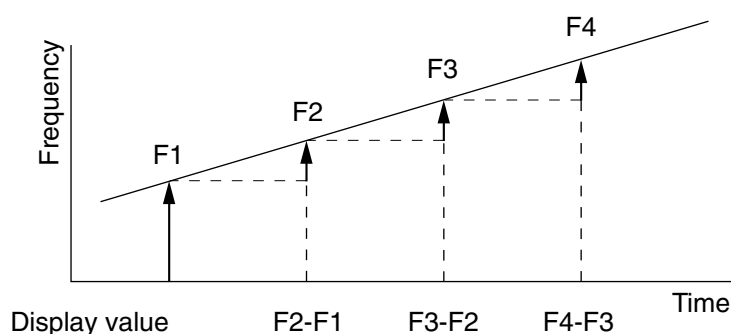

Fig. 4-26 Display Value when Update is On and –Offset is Selected
- (4) Menu F4 : Turns the update mode On/Off. When the update mode is On, the unit sequentially updates the previous measurement value as an offset value. Fig. 4-26 shows the situation when –Offset is selected when the update mode is On.